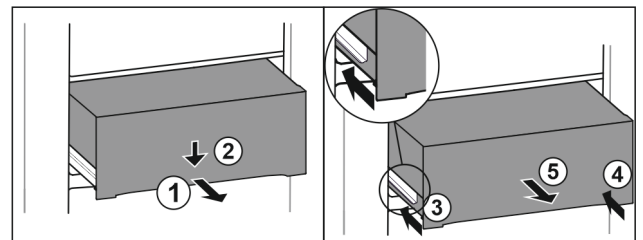

Fig. 85
- Pull out drawer half-way. Fig. 85 (1)
- Push the drawer down at the front. Fig. 85 (2)
- Push the left rail in by about 2 cm. Fig. 85 (3)
- Push the right rail in by about 2 cm. Fig. 85 (4)
- Remove drawer to the front. Fig. 85 (5)